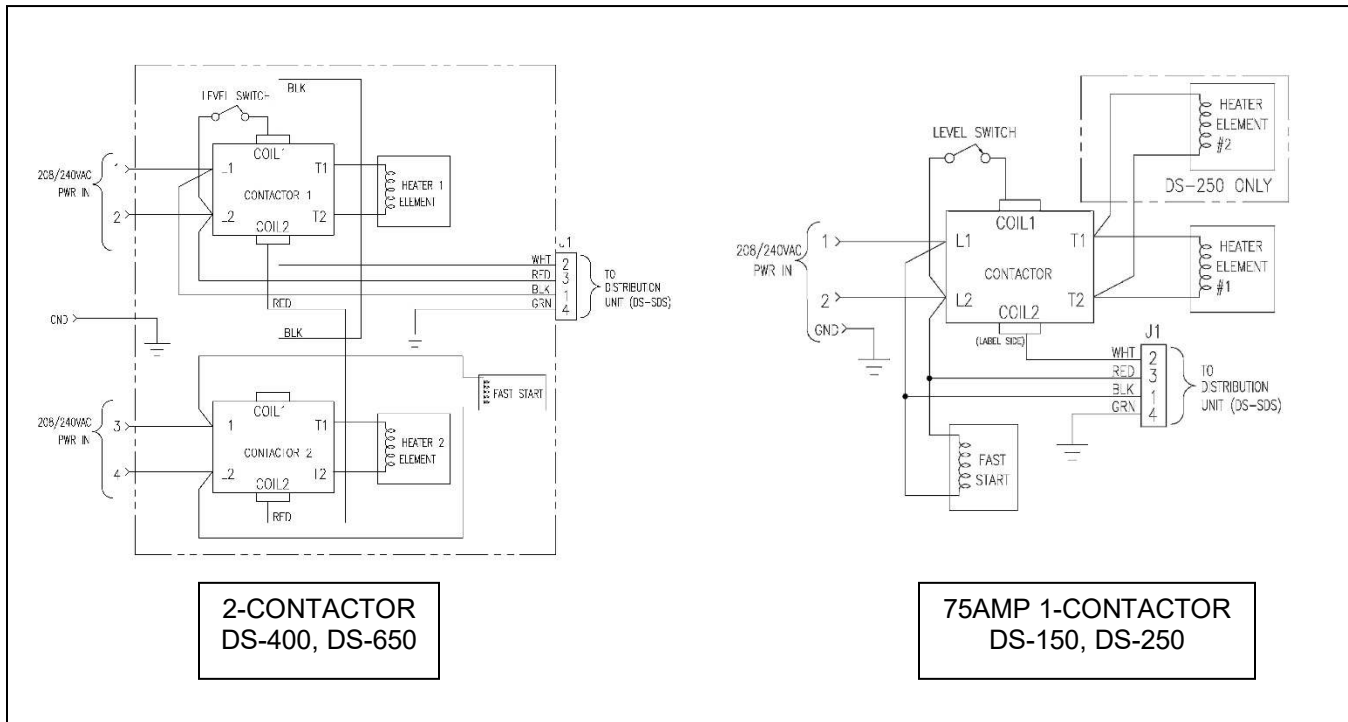

Figure 4
2. Connect 208/240VAC electrical lines to wires labeled 1 & 2 (for DS-150, DS-250) 1, 2, 3, 4, (for DS-400, DS-650) located in the electrical box on generator, (refer to Figure 4).